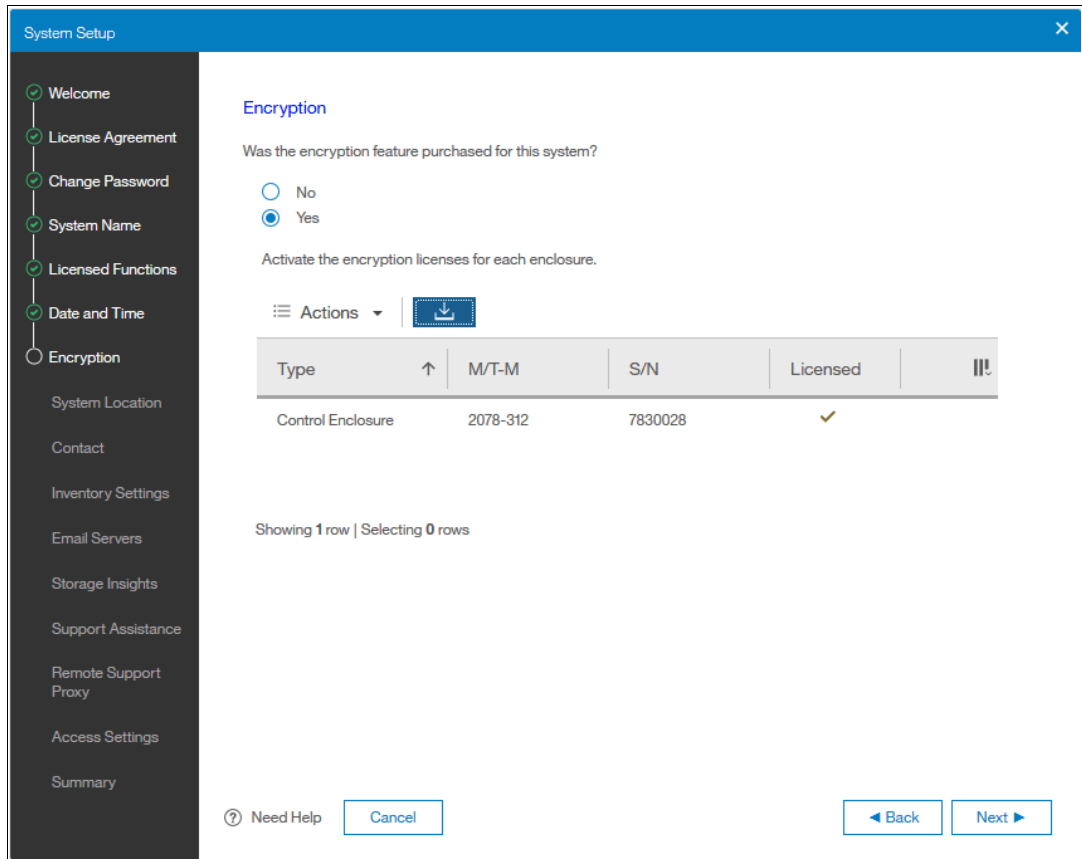

Figure 2-30 Setup wizard: Encryption feature
- If you purchased an Encryption License for a Storwize V5020 or Storwize V5030 system, select **Yes**, as shown in Figure 2-30. One license is required for each control enclosure. Therefore, in a Storwize V5030 configuration with two I/O groups, two license keys are required.